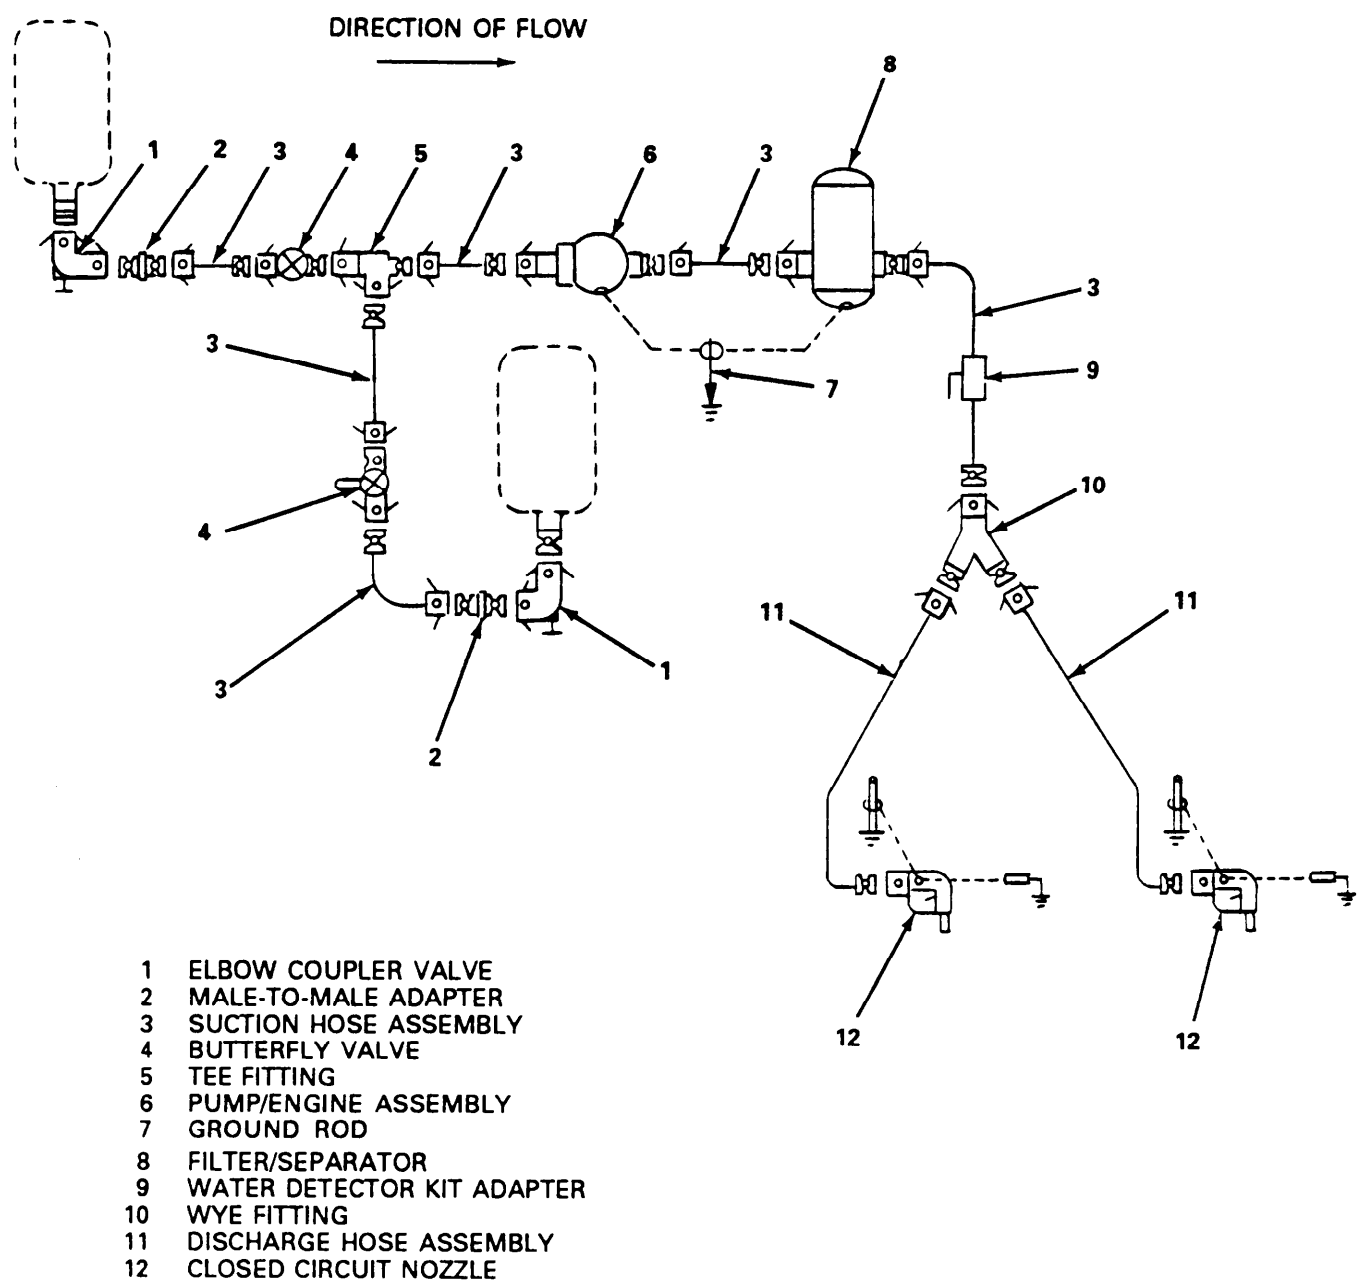

Figure 2-4. Two-Point Refueling Operation.
- a. Set up the equipment as shown in figure 2-4, and install as follows:
The operational schematic in figure 2-4 shows the FARE pumping fuel from a 500-gallon (1892.5 liter) drum and distributing through two branch lines. Setup as shown, the system requires a minimum of two men for simultaneous two-point refueling and a third man or tender stationed at the pump and filter/separator. If manpower is critically short, it is possible for one man to operate the equipment with assistance of the crew from each helicopter being refueled. Many variations are possible, depending on specific need.
c. Bonding and Grounding Procedures. Refer to figure 2-4.
- b. Close elbow coupling valve (1, figure 2-4) attached to the fuel tank.